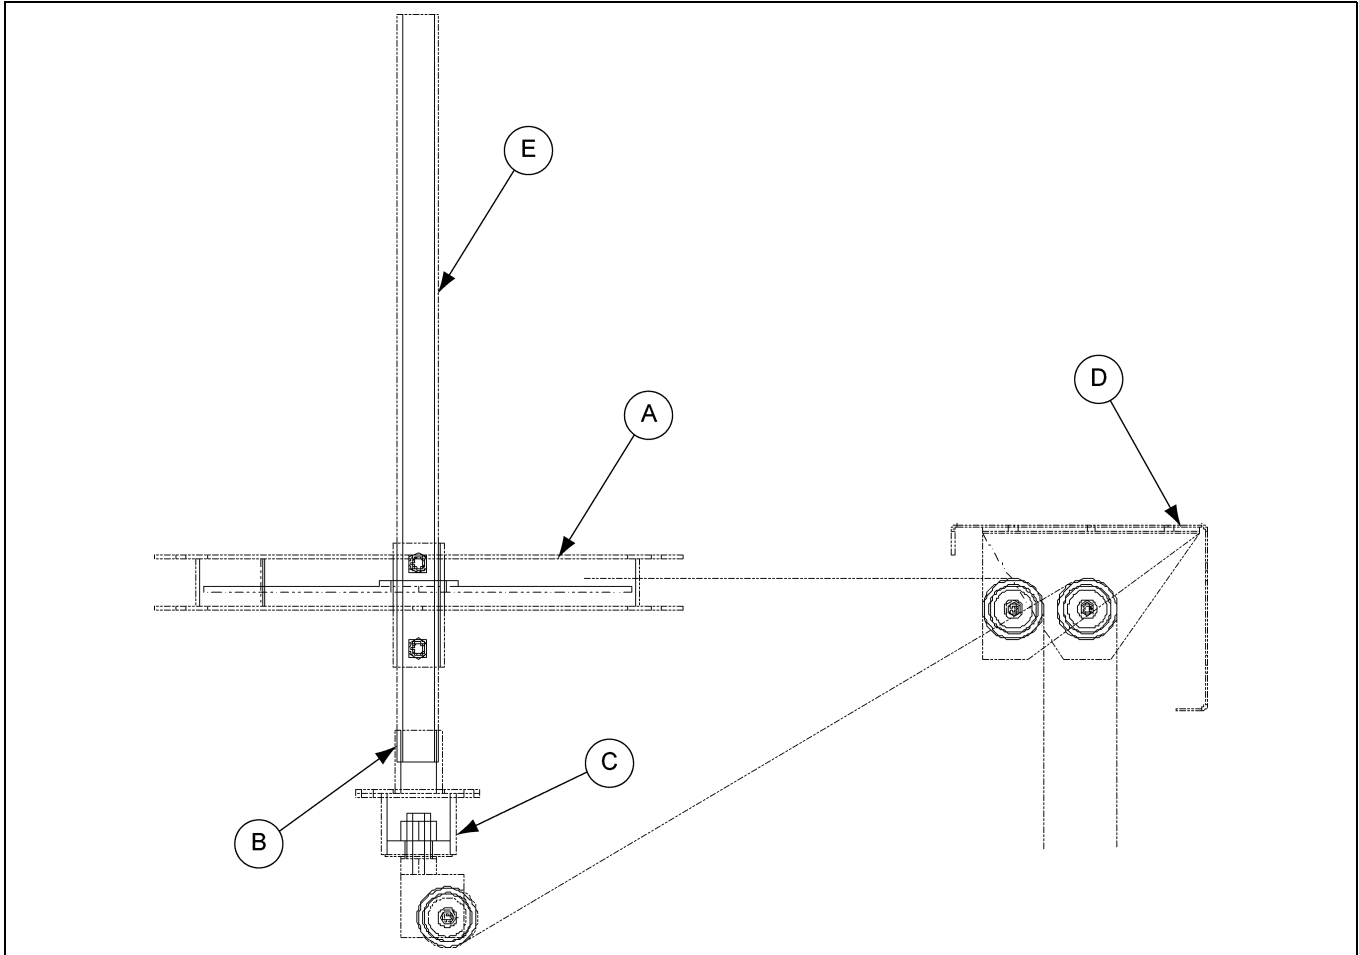
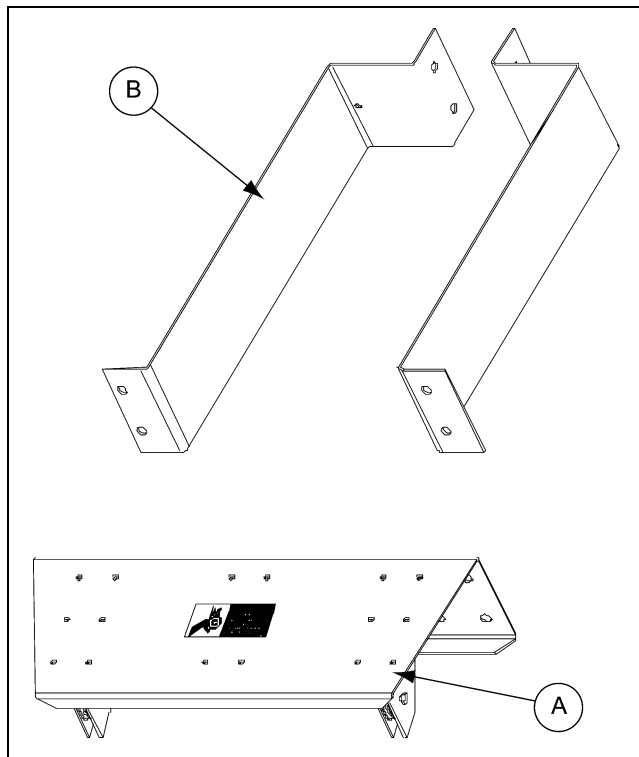
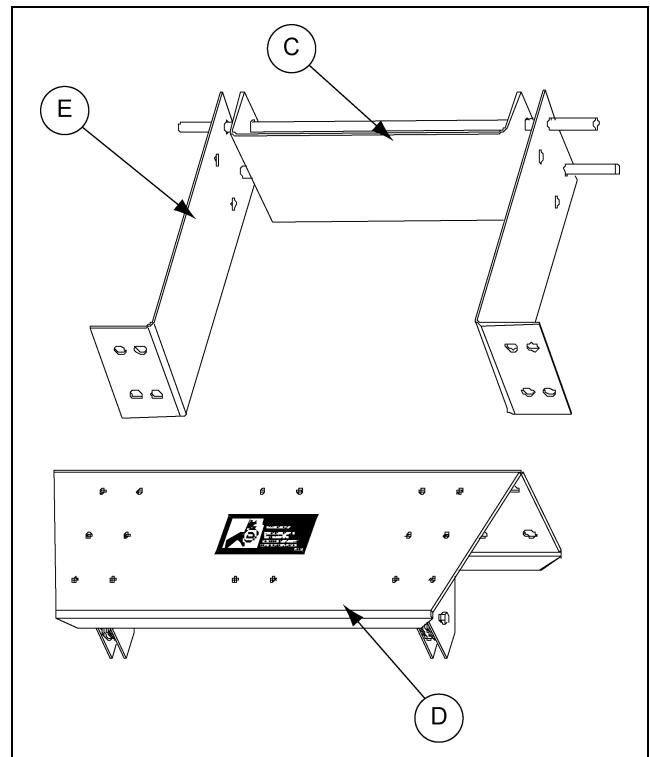

Figure 5D
Figure 5E Trunking Removed for Clarity
Figure 5F Trunking Removed for Clarity
The next piece to install is the upper cable guide assembly (D). The cable guide assembly is installed on the trunking. The location on the trunking is determined by the height of the cable wheel (A). The cable must run in-line from the cable wheel to the sheaves in the cable guide assembly. This location is shown in Figure 5D below. For cable installation, See Page 20.
Once the location of the upper cable guide assembly is determined it must be fastened to the trunking. The assembly of the clamp band (B) and upper cable guide assembly (A) is shown in the Figure 5E and Figure 5F below. The 1/2" x 2" bolts and nuts that fasten the clamp bands (E) to the upper cable guide assembly (D) are provide in the hardware package (GSB-DCG-HDW). These clamp bands (E) vary depending on what size leg you have. Refer to the Table below to see what clamp be used.
With shorter piece of cable, take it and run through center pulley in upper cable guide assembly (See Figures 5E and 5F on Page 16.) Then run cable over to pulley (GSB-0045) on control pipe of distributor and continuing feeding cable up through control pipe in distributor. (See Figure 5D on Page 15.) Make sure cable is fed through all pulleys that are inside distributor. Attach this end to the sliding mechanism inside distributor by looping through eye in slide mechanism. Attach cable back to itself using cable clamp. Once this end is attached, run the cable down the side of the leg to the lower cable wheel assembly (See Figure 5H on Page 18.), running through cable guides when necessary. (See Figure 5I on Page 19.) Attach this end to the control handle (GSB-0030) on the lower cable wheel assembly by looping through end hole and attach cable back to itself using cable clamp. (See Figure 5H on Page 18.) The control handle will be pulled up to let spout turn inside distributor. Make sure when cable is clamped together that control handle still has enough travel upward to allow the spout to turn.
Take the longer piece of cable and mark the center. Start at the upper cable wheel on the control pipe of the distributor. (See Figure 5C on Page 14.) Start at the center of the cable and wrap it around the cable wheel a minimum of three (3) times. Take the ends of the cable and run them over to the upper cable guide assembly. (See Figure 5D on Page 15.) Feed the ends through the two (2) outside pulleys. Then run both cables down the leg to the lower cable wheel assembly (See Figure 5H on Page 18.), running through cable guides as necessary. (See Figure 5H on Page 18.) Take one end of cable and wrap around cable wheel a minimum of two (2) times. Loop through one of the square holes inside of cable wheel and attach back to itself with cable clamp. Take the other end and wrap a minimum of two (2) times. Loop end through one of the square holes inside on cable wheel, on opposite side as other cable end and attach back to itself with cable clamp.